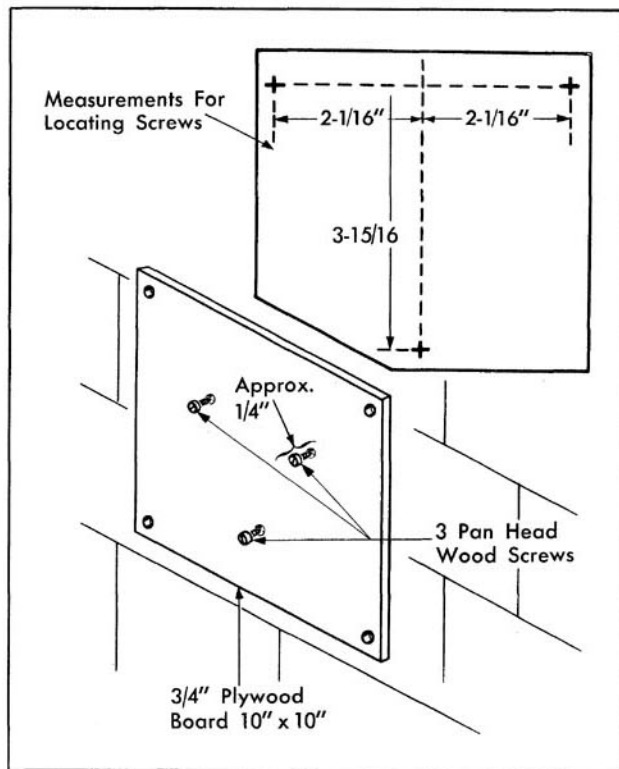

Fig. 13-98 Aiming Fixture
2. Install three 1/2" No. 6 pan head wood screws on the boards as shown in Fig. 13-98. The screw heads should be approximately 3/4" from board.